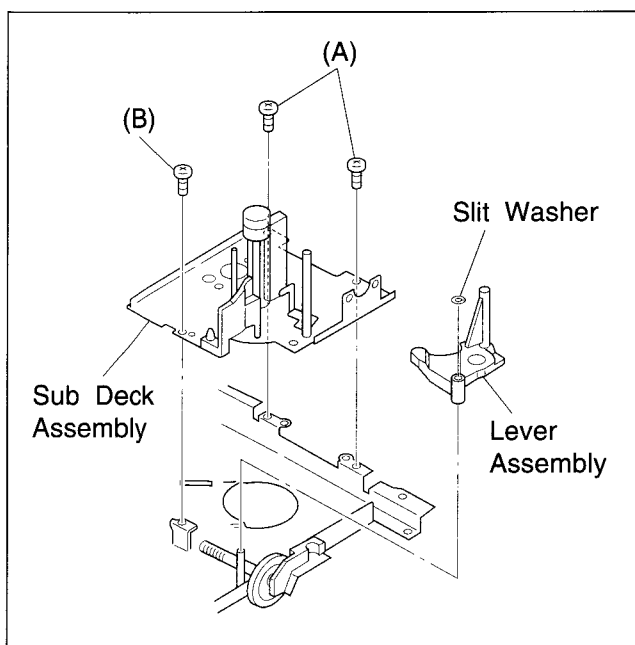

Fig.1-5-8
- (3) Take out 2 screws (A), 1 screw (B) and remove the sub deck assembly as indicated in Fig.1-5-8.